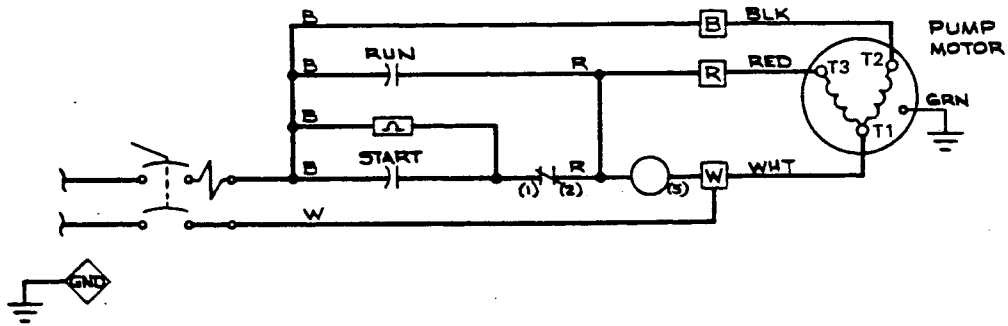
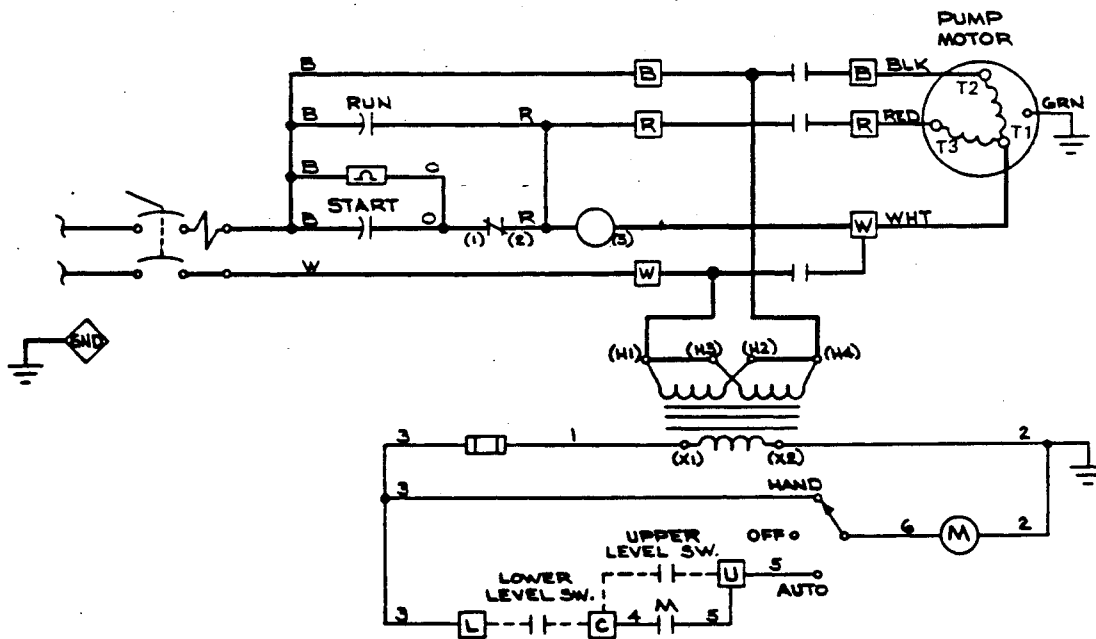
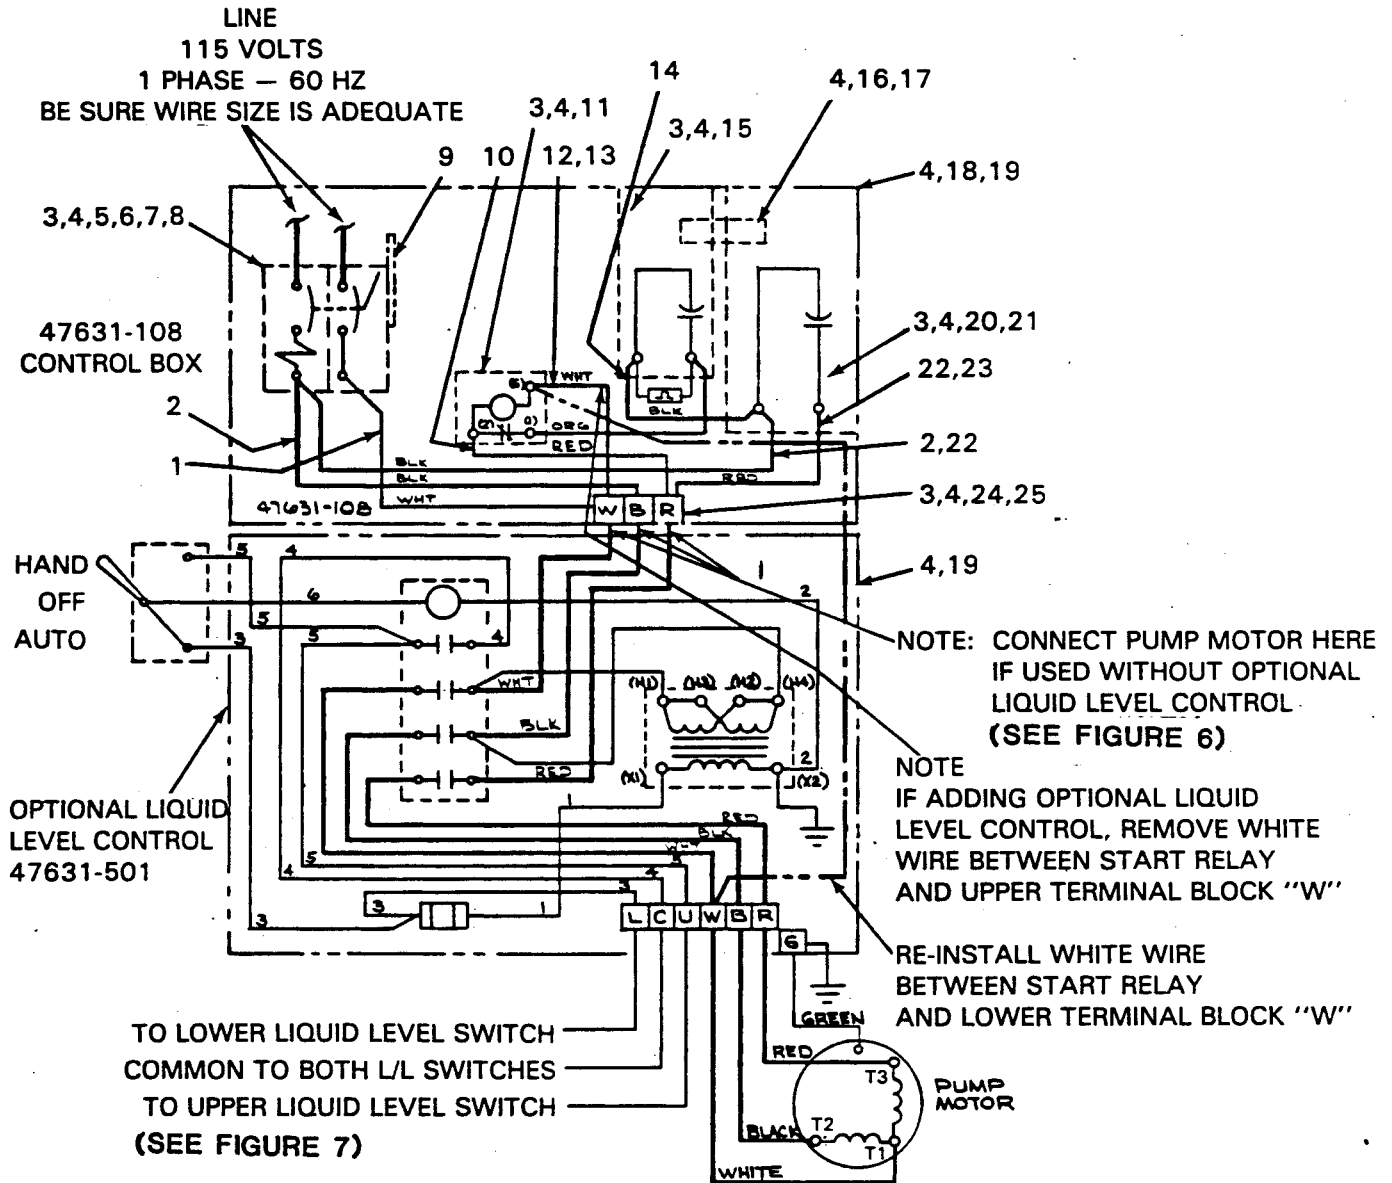

Figure 6. Elementary Wiring Diagram (Without Liquid Level Controls)
Figure 7. Elementary Wiring Diagram (With Liquid Level Controls)
Figure 8. 47631-108 Control Box Assembly - Pictorial Wiring Diagram
- a. Measure the incoming voltage across lines (1 & 2) while the pump is **operating at full capacity**. See Figure 6 on page B-14 or Figure 8 on page B-15.
Connect the pump power cable to the control box as shown in Figure 6 on page B-14 or Figure 8 on page B-15. Use conduit or cable clamps to secure the power and
If liquid level controls are to be installed, connect the motor power cables and level control power cables as shown in Figure 7 and Figure 8 on page B-15.
See Figure 8 on page B-15 for a pictorial wiring diagram and callouts of the control box assembly internal parts.